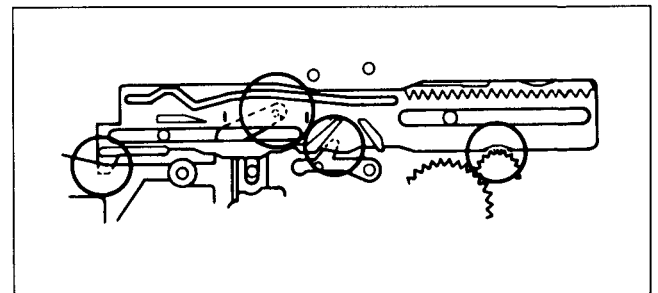
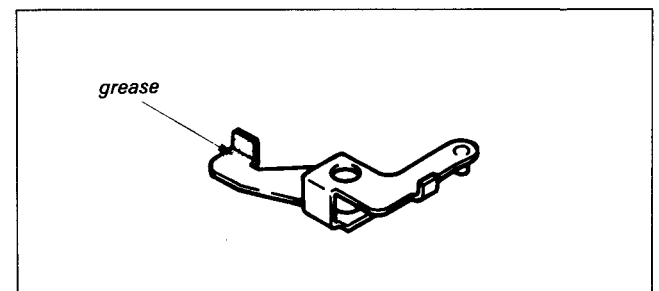

Fig. 7-42.
Fig. 7-43.
- 2) Push mode arm ① in the direction of arrow, and mount the M slider ②, noticing the positioning of the other parts in Fig. 7-42. and mount the stopper washer ③.
- 3) Mount hard brake (S) ④ and spring ⑤.
- 4) Apply grease. (See Fig. 7-43.)
- 5) Apply a half drop of oil from the spindle ⑥ groove to the bottom, mount the pinch press lever assembly ⑦ and the E ring ⑧.
- 6) Mount RL arm ⑨, mount the ring lock spring ⑩ and the stopper washer ⑪.
- 7) Mount B release slider ⑫ and stopper washer ⑬.
- 8) Mount REW brake assembly ⑭.
- 9) Mount the two tension springs ⑮.
- 10) Push the M slider ② all the way to the left.